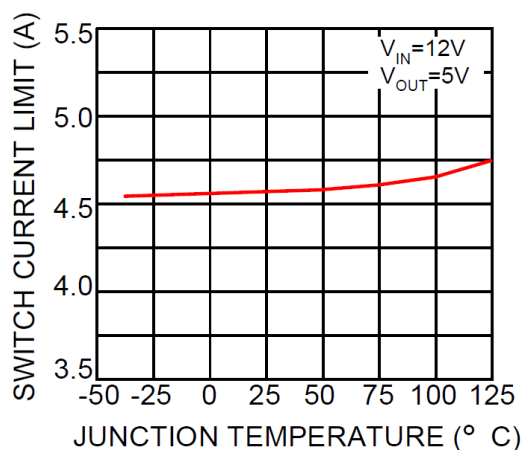

Fig.5 Switch Current Limit
- B. From the inductor value selection guide shown in Figure 5, the inductance region intersected by the 12V horizontal line and the 3A vertical line is 33 μH , and the inductor code is L40.